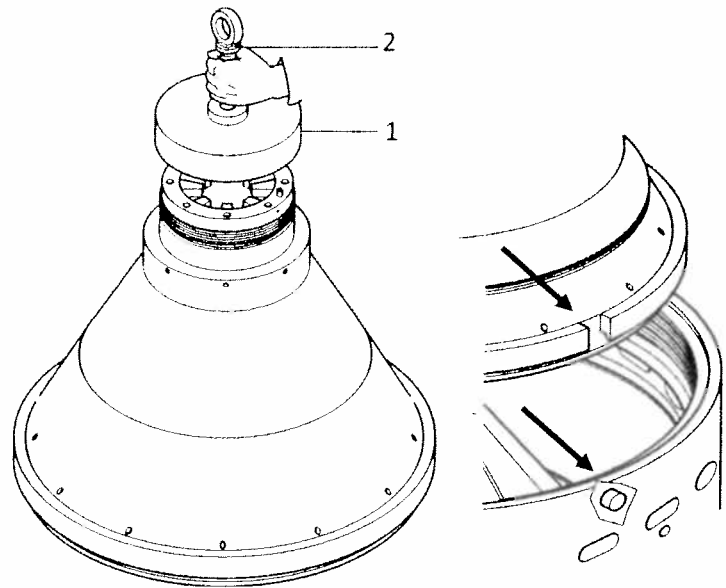

Figure 6.11
- 11) By the spanner (09.110.0), place down the **bowl hood** (Fig. 6.11). Proceed as explained below.
- Fasten spanner body (1) on the bowl hood.
- Slightly screw threaded rod (2).
- 8) By the spanner (09.110.0), extract the **bowl hood** (Fig. 6.11). Proceed as explained below.